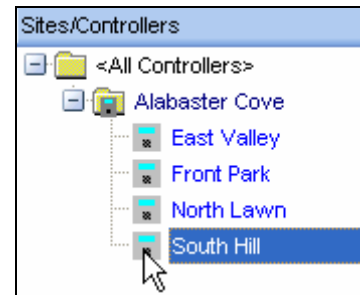

Figure 16.1.3D
2. Next select a controller by clicking on it to highlight (Figure 16.1.3D).